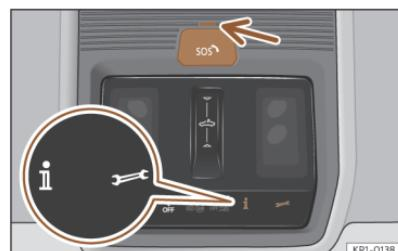

Fig. 47 On the roof console: controls for voice services.
The following voice services can be run by pressing the buttons and and **Fig. 47**:
>>> Fig. 47 (arrow). It shows the following statuses:
1. Briefly press the button cover  and open the cover **>>> Fig. 47**.
Depending on the equipment and the country, the vehicle may be fitted with an emergency call system. In some countries, the free public emergency call system is activated by default. The control element is located on the roof console >>> **Fig. 47**.
1. Briefly press the button cover  and open the cover >>> **Fig. 47**.